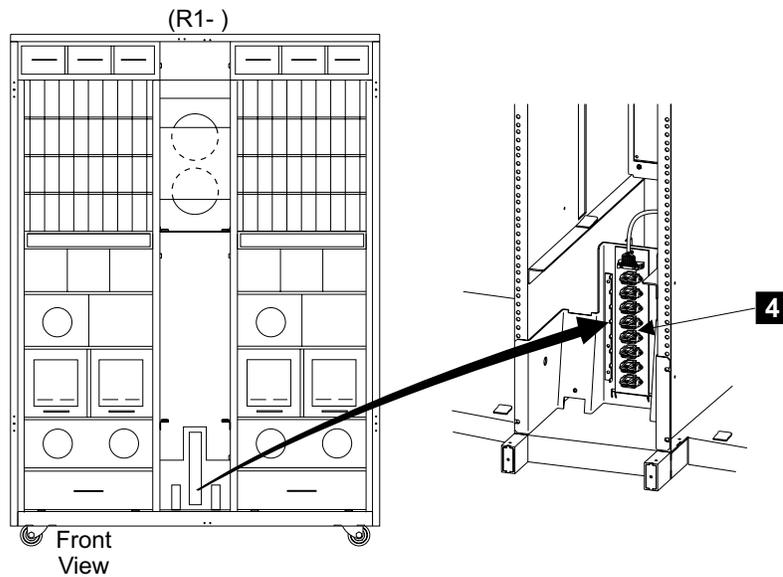

Figure 261. Tailgate Cable Strain Relief Clamps (S009053)
- ___ 16. Attach the remote power control cable from the host to the remote power control card **4** [Figure 261].